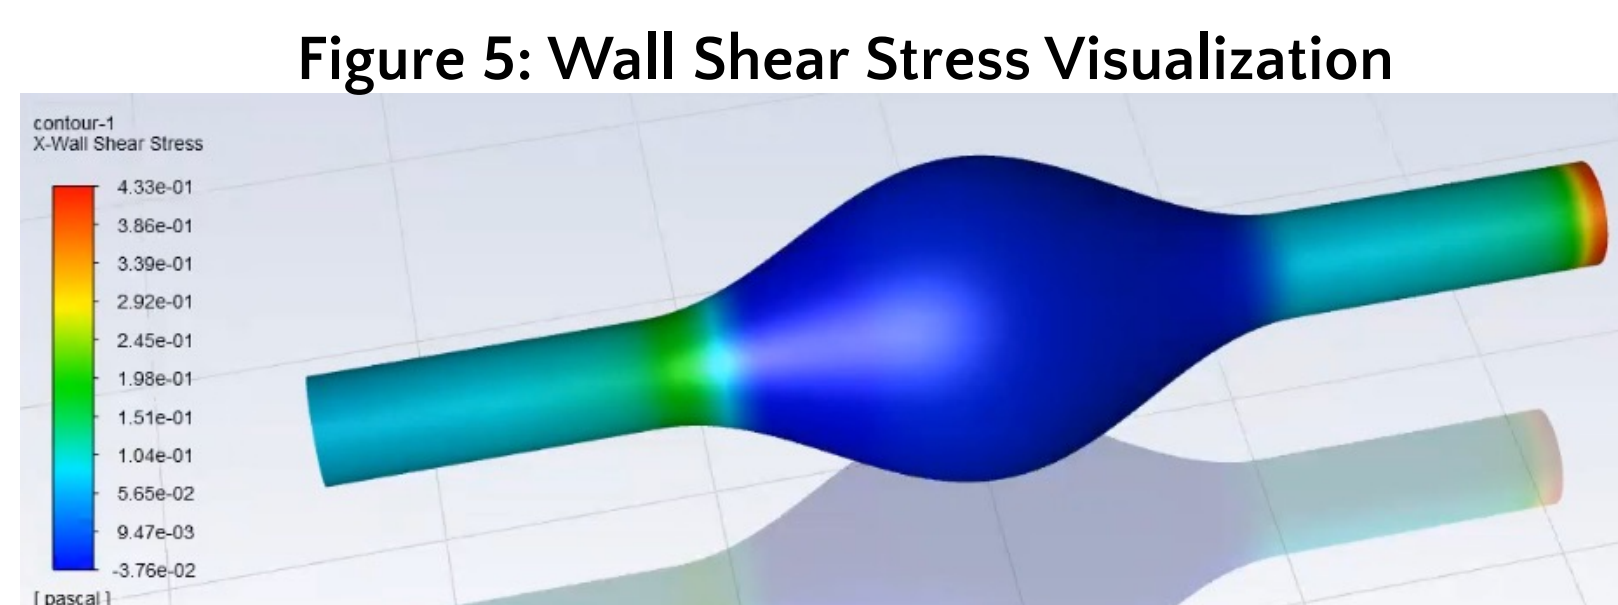

Figure 5: Wall Shear Stress Visualization
- Shear stress at the walls of the aorta were calculated and modeled in Fig. 5.